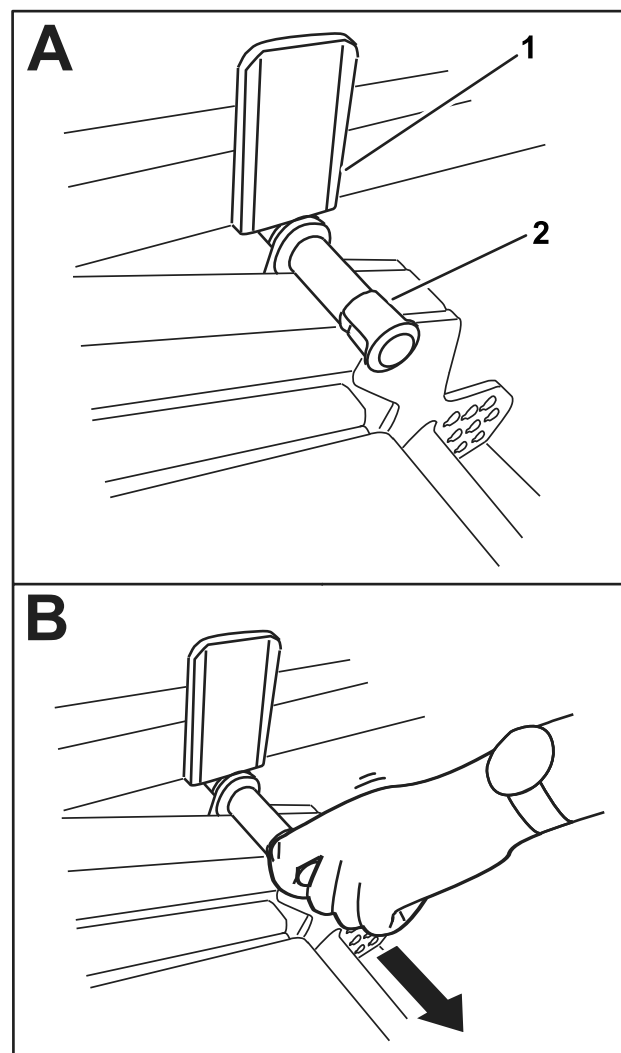

Figure 39
3. Use your foot to press down on the cutting unit, then pull out on the pin (B in Figure 39) to let the cutting unit settle into the TRANSPORT position.
2. Slowly rotate the cutting unit down until the pin contacts the lift-arm plate (A in Figure 39).